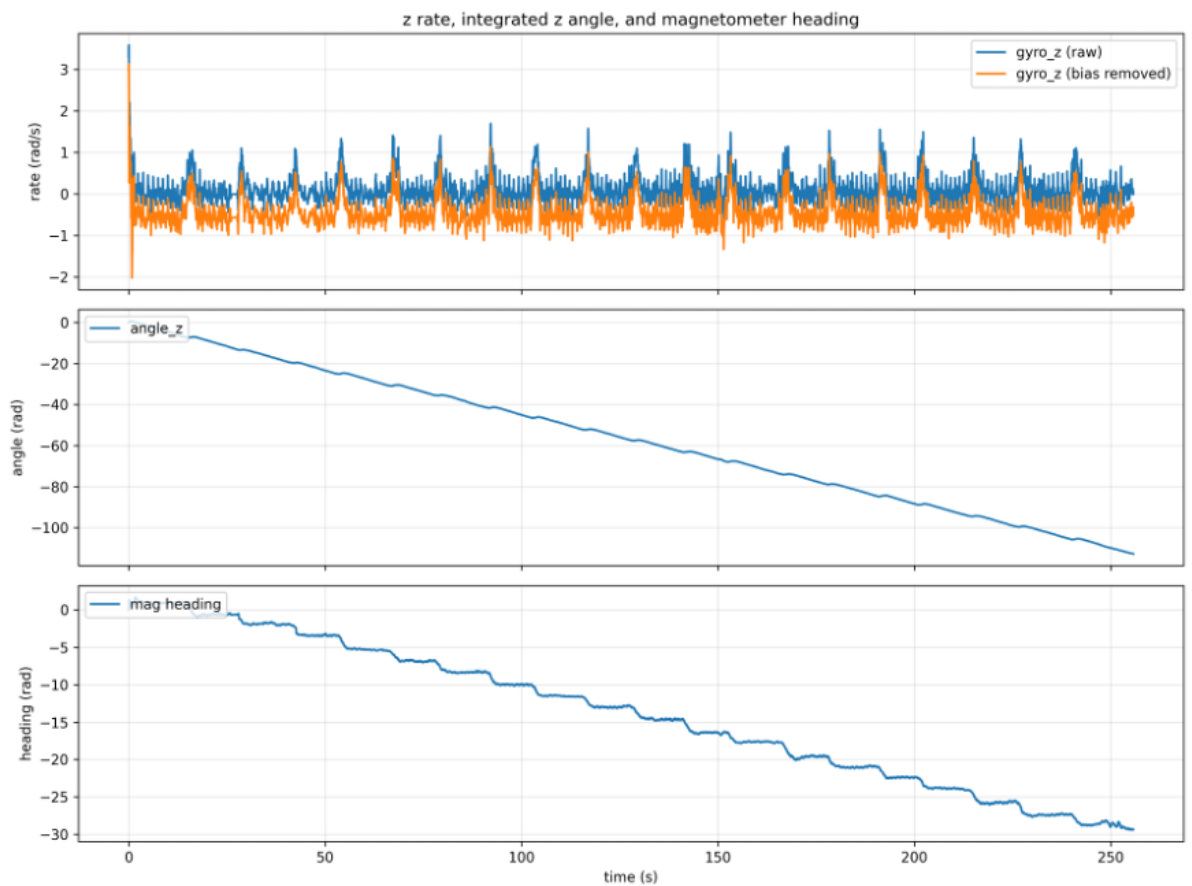

Figure 12: Gyroscope Z-axis rotation and magnetometer heading
**Task:** Plot rotational rate around Z, rotation from the gyro around Z (integrate once), and magnetometer heading (calculate  $\text{atan2}(X/Y)$ ) on three subplots (Fig. 12).